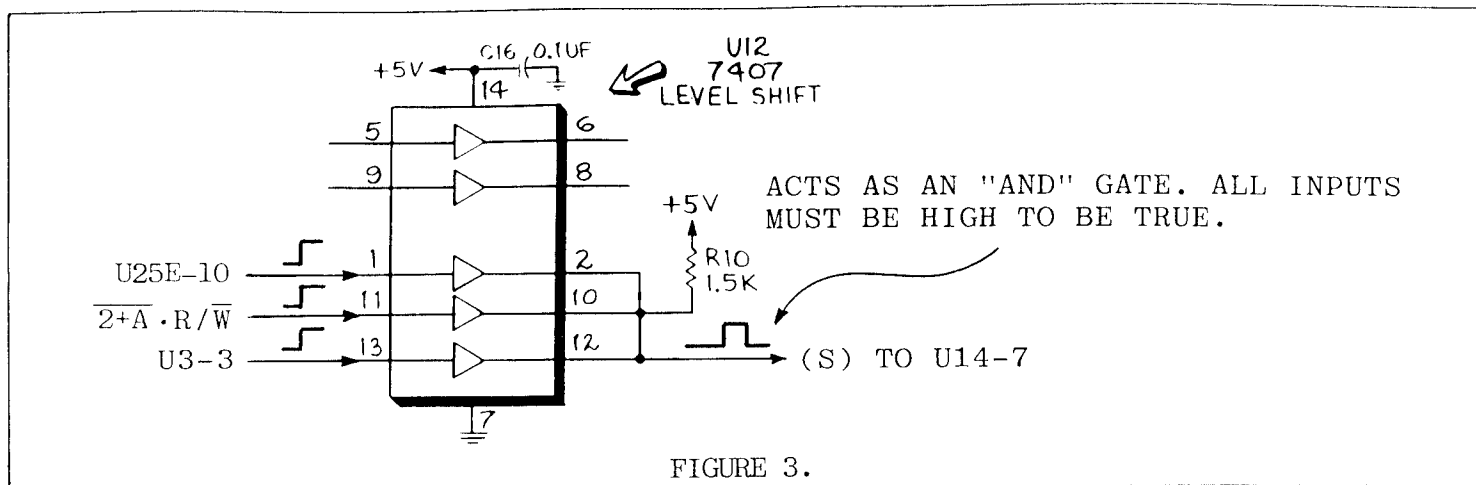

FIGURE 3.
Latching of the phoneme data occurs on the rising edge of the (S) strobe signal (Pin 7 of the SC01A).  $\overline{2+A}$  and the R/ $\overline{W}$  signal are combined together at Pins 5 and 6 of U10B 74LS02. This signal is buffered by U12 and anded with the Phase 1 clock and the clock output of U25E-10. The result is that all three inputs must be high for a high output (refer to Figure 3.). When any input is low, the output will be low.